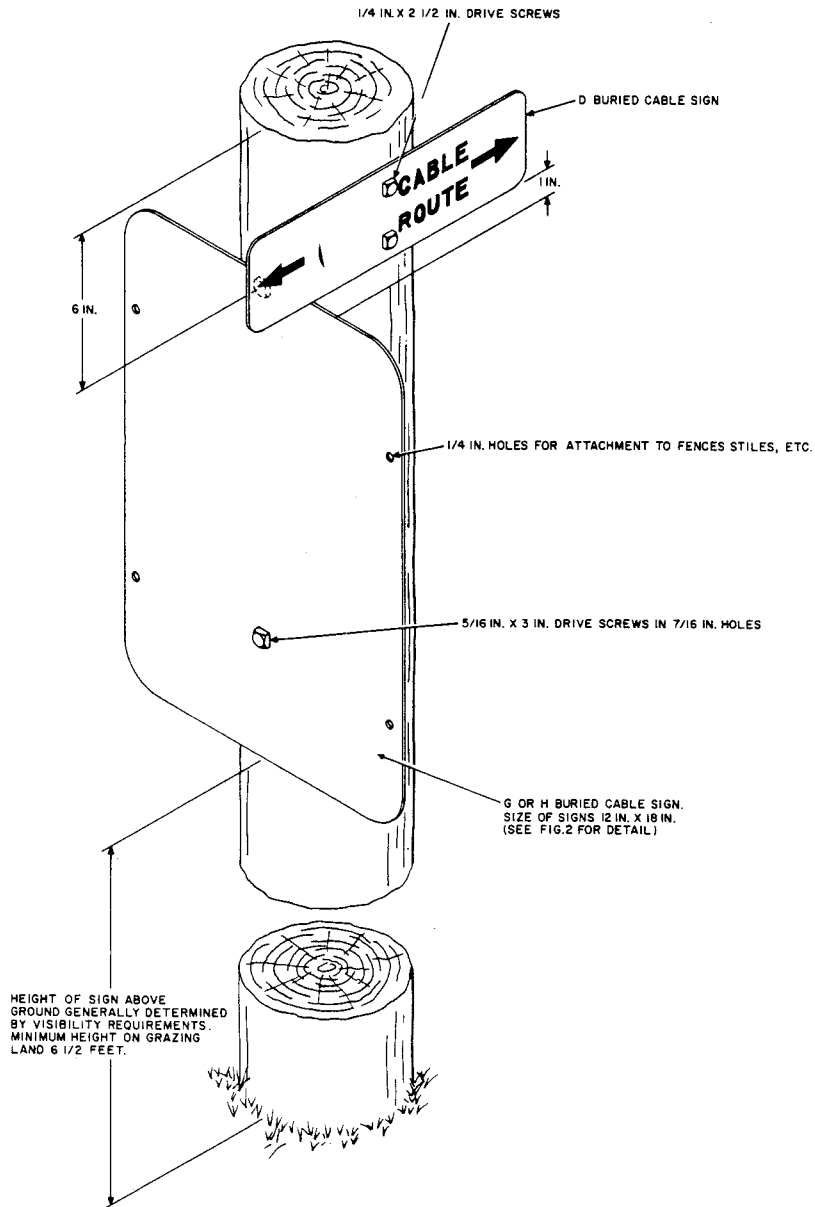

Fig. 9—G and H Buried Cable Sign Installed on Wood Post
- 5.06** An example of the installation of a G buried cable sign on a C sign post is shown in Fig. 9.
- 5.08** D and F buried cable signs should be attached to C sign posts with two 1/4-inch by 2-1/2 inches drive screws in the holes provided. Mount the D sign with the arrows aligned with the cable route, and the F sign pointing in the direction of the auxiliary station (Fig. 11). When used with the G or H sign the D sign should be placed above the warning sign, as illustrated in Fig. 9. This sign can be bent if desired to indicate that a change in direction of the cable occurs at the post.